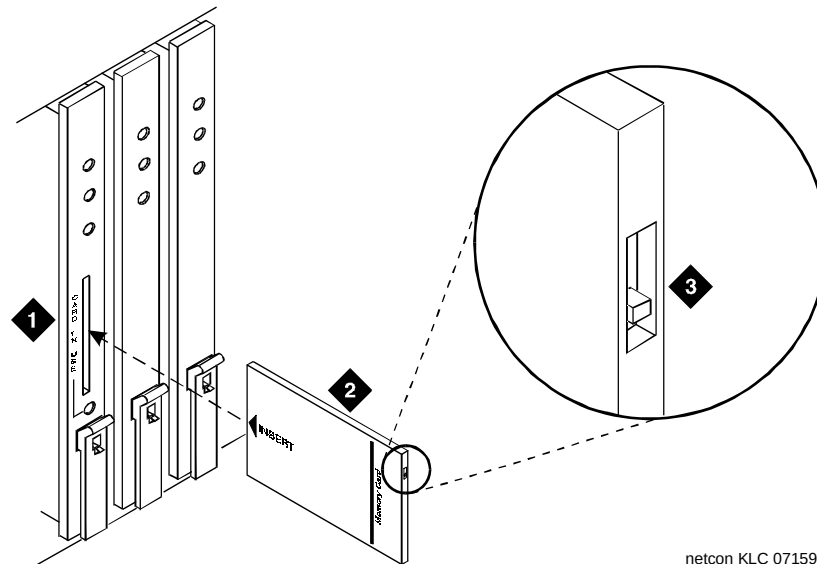

Figure 5-1. Record Switch on Translation Card
4. Verify the write switch on the original translation card is in the down position. See Figure 5-1.
5. Insert the original translation card into the slot on the TN777B faceplate. See Figure 5-1.